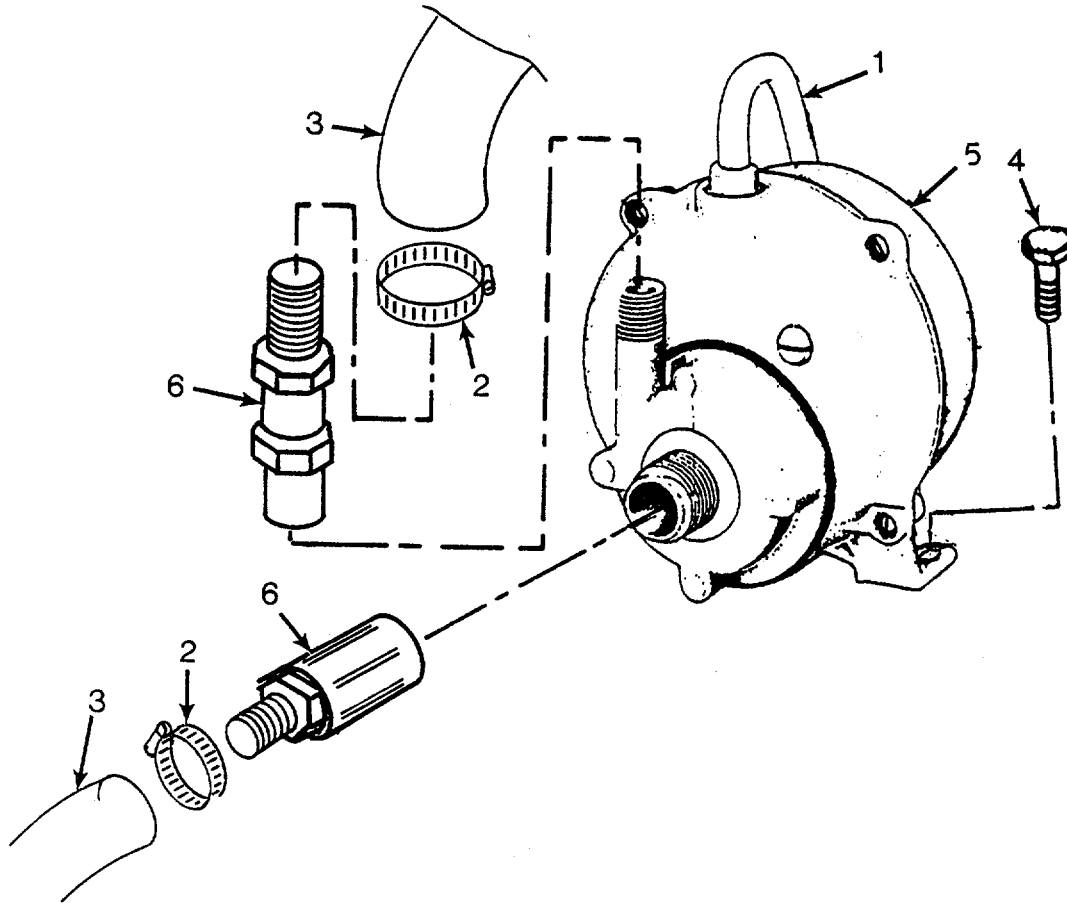

Figure 4-21. Water Pump
a. Inspect. (See Figure 4-21.)
- (1) Inspect water tank for breaks or separation of seams.
- (2) Inspect for security of mounting.
- (3) Inspect water pump for completeness, security, electrical connection, water level, and proper operation.
(1) Replace pump. (See Figure 4-21.)